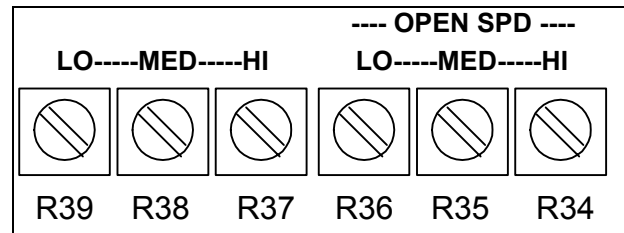

Figure 19-14
- With the CL-HS and CL-MS inputs high for low speed, press the door close button on the door board and set CL Speed LOW pot to close the doors without stalling. [See Figure 19-14.]